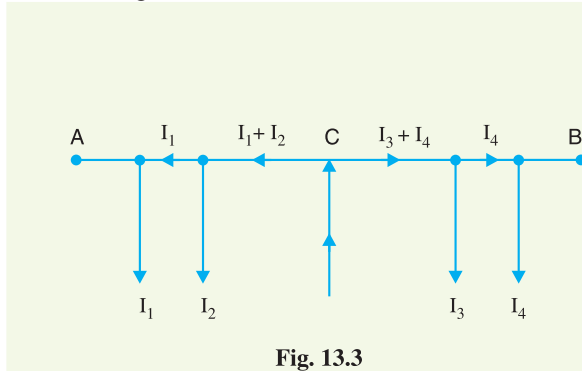

Fig. 13.3
- (iii) **Distributor fed at the centre.** In this type of feeding, the centre of the distributor is connected to the supply mains as shown in Fig. 13.3. It is equivalent to two singly fed distributors, each distributor having a common feeding point and length equal to half of the total length.